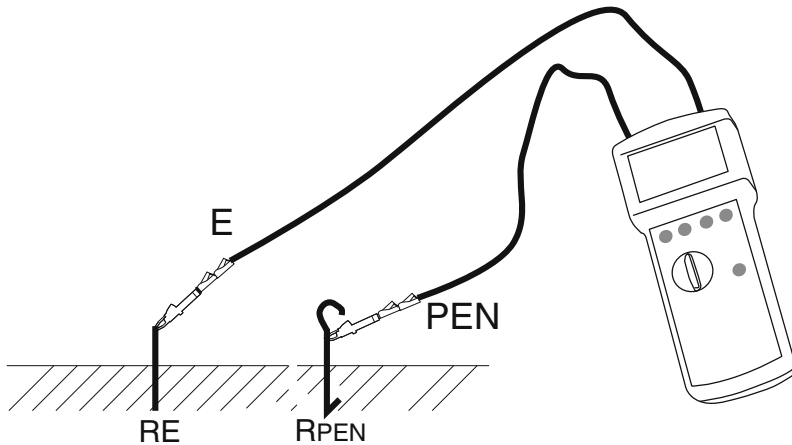

Figure 3: two-wire method
- 1) Connect earth to be tested with socket (E) and known earth with socket (H), also refer to fig. 3
- 2) Turn the rotary switch (13) to the "2 pole" position.
- 3) Set contact voltage (11) by using key "UL".
- 4) If required choose manual frequency selection by using key "auto/man" (16), and select test frequency with key "f1/f2" (12).
- 5) Press key "Start" (14).